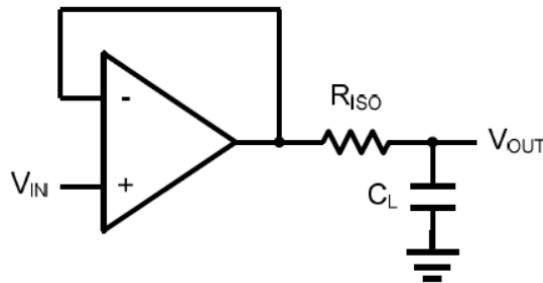
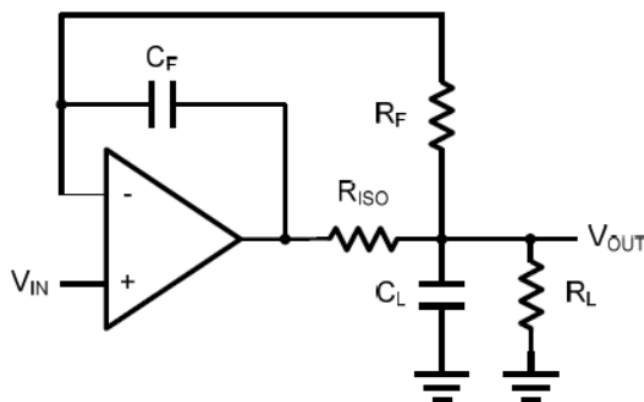

Figure 1. Indirectly Driving a Capacitive Load Using Isolation Resistor
Figure 2. Indirectly Driving a Capacitive Load with DC Accuracy
The AO358V is optimized for bandwidth and speed, not for driving capacitive loads. Output capacitance will create a pole in the amplifier's feedback path, leading to excessive peaking and potential oscillation. If dealing with load capacitance is a requirement of the application, the two strategies to consider are (1) using a small resistor in series with the amplifier's output and the load capacitance and (2) reducing the bandwidth of the amplifier's feedback loop by increasing the overall noise gain. Figure 1. shows a unity gain follower using the series resistor strategy. The resistor isolates the output from the capacitance and, more importantly, creates a zero in the feedback path that compensates for the pole created by the output capacitance.
The circuit in Figure 2 is an improvement to the one in Figure 1. R_F provides the DC accuracy by feed-forward the V_{IN} to R_L . C_F and R_{ISO} serve to counteract the loss of phase margin by feeding the high frequency component of the output signal back to the amplifier's inverting input, thereby preserving the phase margin in the overall feedback loop. Capacitive drive can be increased by increasing the value of C_F . This in turn will slow down the pulse response.